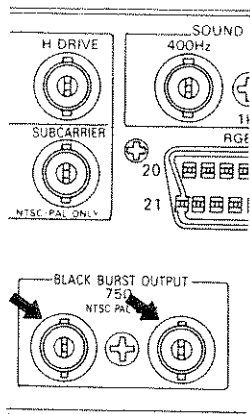

Figure 4.20
4.6.2 Black Burst Signal (See Figure 4.20)